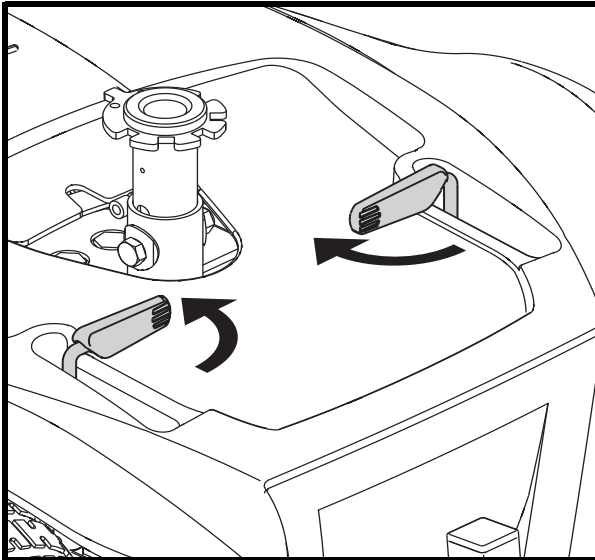

Figure 8. Drive Mode (Drive Engaged)
2. Push both levers inward toward the seat post to engage the drive motors (drive mode). See figure 8.
2. Ensure the power chair is in drive mode. See figure 8.